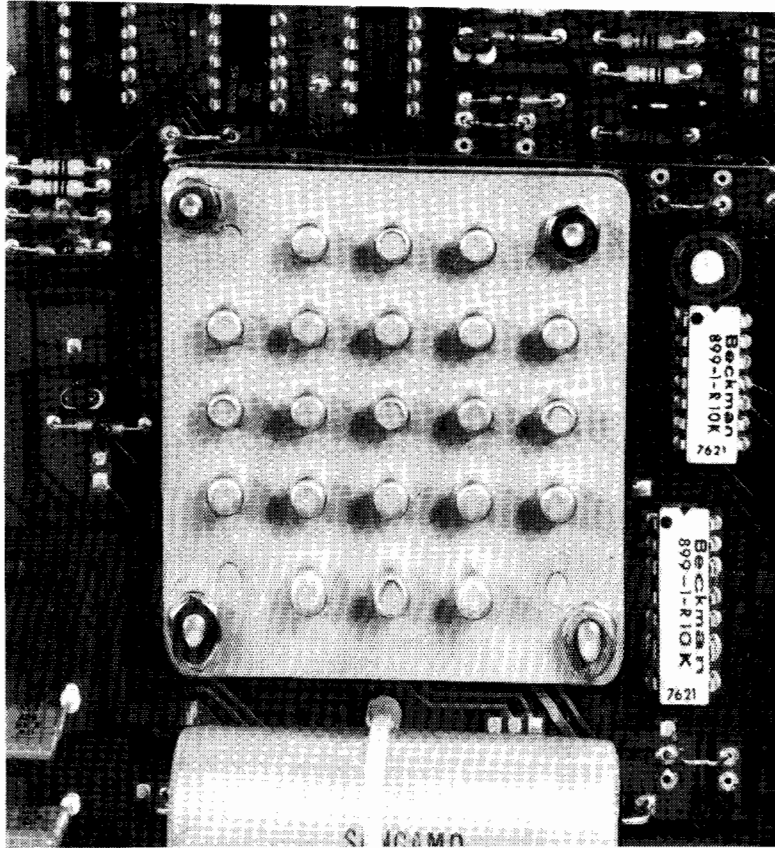

Figure 4-17: Tape Control Chip Completed Installation
7. Install the Tape Control Chip, as shown in Figure 4-17.